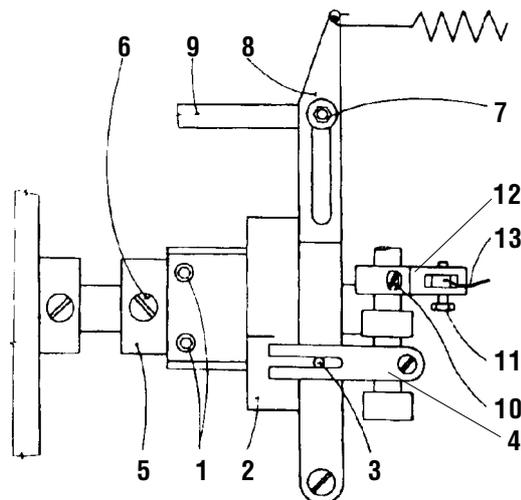

Fig. 22
22. Time setting of the control cam of the thread cutter (Fig. 22)
23. Setting of the movable cutting knife lifting (Fig. 22)
24. Setting of the upper thread tensioner releasing (Fig. 22)